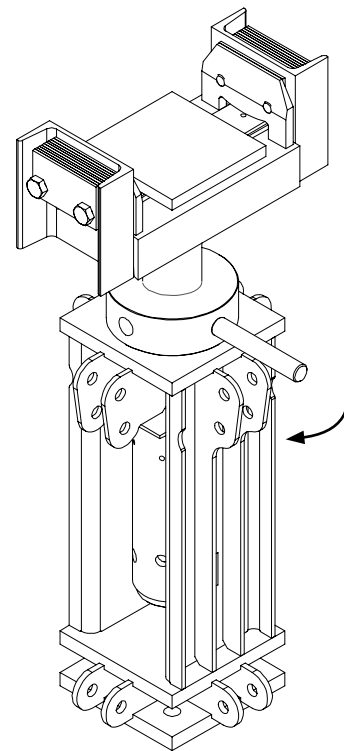

Fig. D1.02
2. Turn the Mounting Shaft VST (29) in a clockwise direction in order to spindle out the spindle head. (Fig. D1.02)